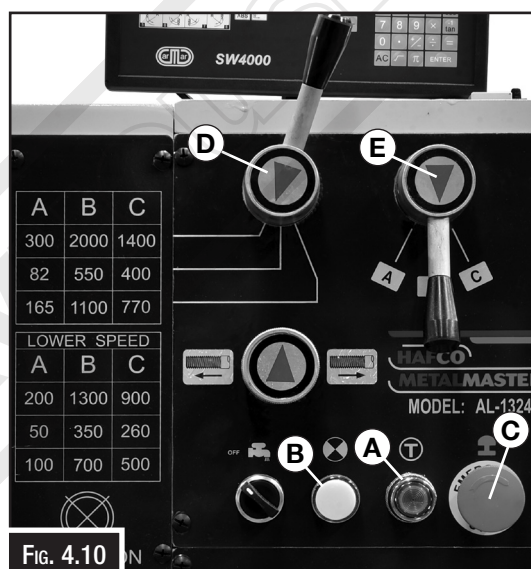

FIG. 4.10
2. Connect machine to power supply. Power lamp (B in Fig. 4.10) should light.
3. Press EMERGENCY STOP button (C in Fig. 4.10). This will help prevent unexpected startup when machine is connected to power.
4. Twist EMERGENCY STOP button (C in Fig. 4.10) clockwise until it pops out - this resets the button and enables the power to control panel and motor.
9. Press EMERGENCY STOP button (C in Fig.4.10) and wait for spindle to come to a complete stop.